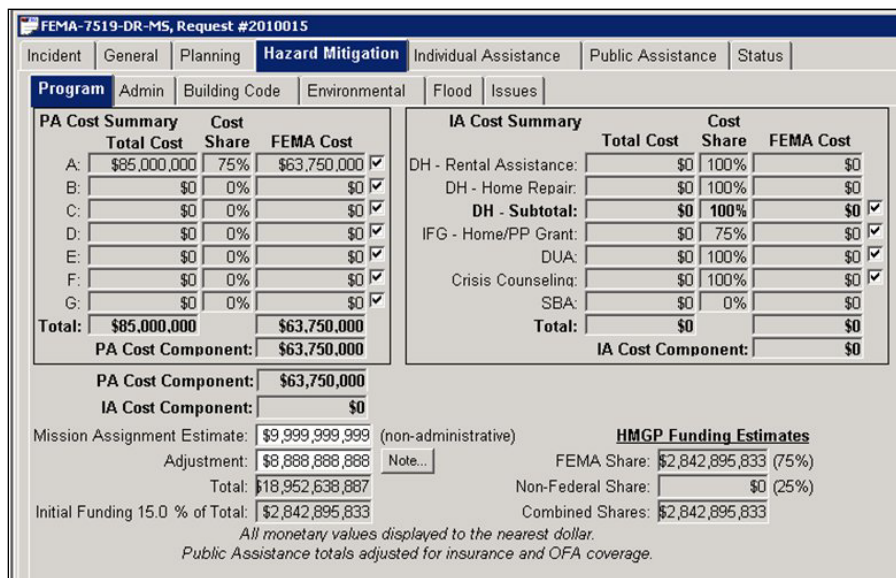

Figure 3-8: PDA > Hazard Mitigation > Program Tab
- b. Among the six sub-tabs, the **Program** sub-tab is displayed by default. The tab displays the PA and IA Cost Summaries (Figure 3-8).